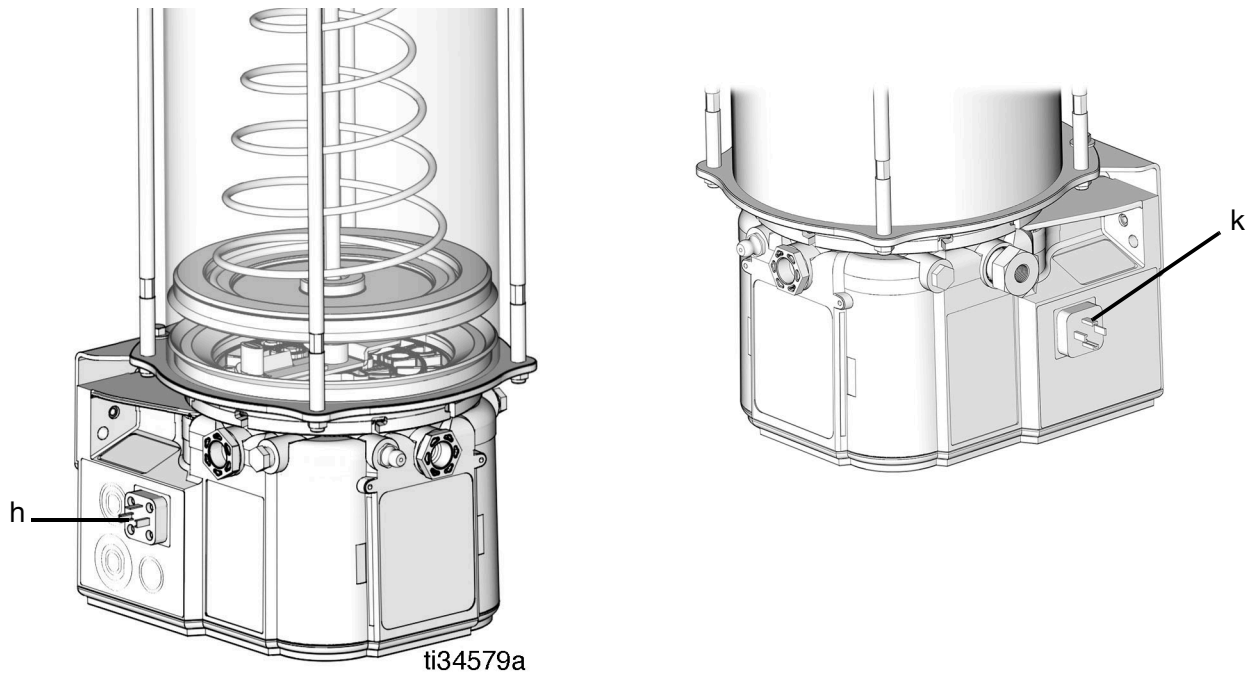

FIG. 1
**NOTE:** Codes g - p relate to a specific location on the G3 pump. See Fig. 1 for these locations.